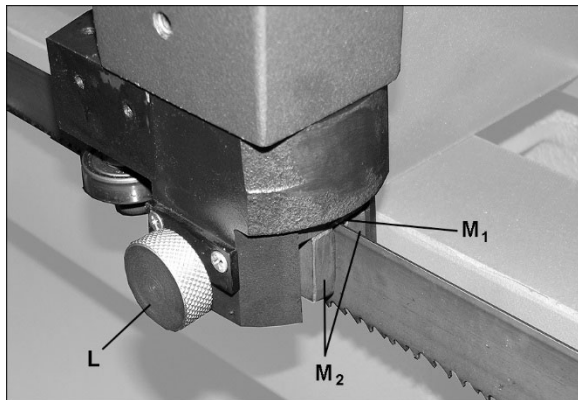

Figure 7-3: carbide guide adjustment
6. Turn knurled knob (L, Figure 7-3) to adjust carbide top (M₁) and side (M₂) guides. Guides should place light pressure on blade. Do not overtighten.
If tension mechanism will not move blade, loosen and then re-tighten socket head cap screws on gibs (X, Figure 7-3).